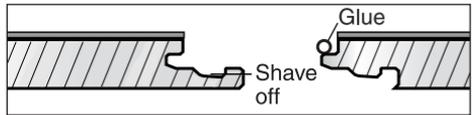

Fig. 18
1. Using a small plane or utility knife, plane or shave off 75% of the ledge of the groove (Fig. 18).